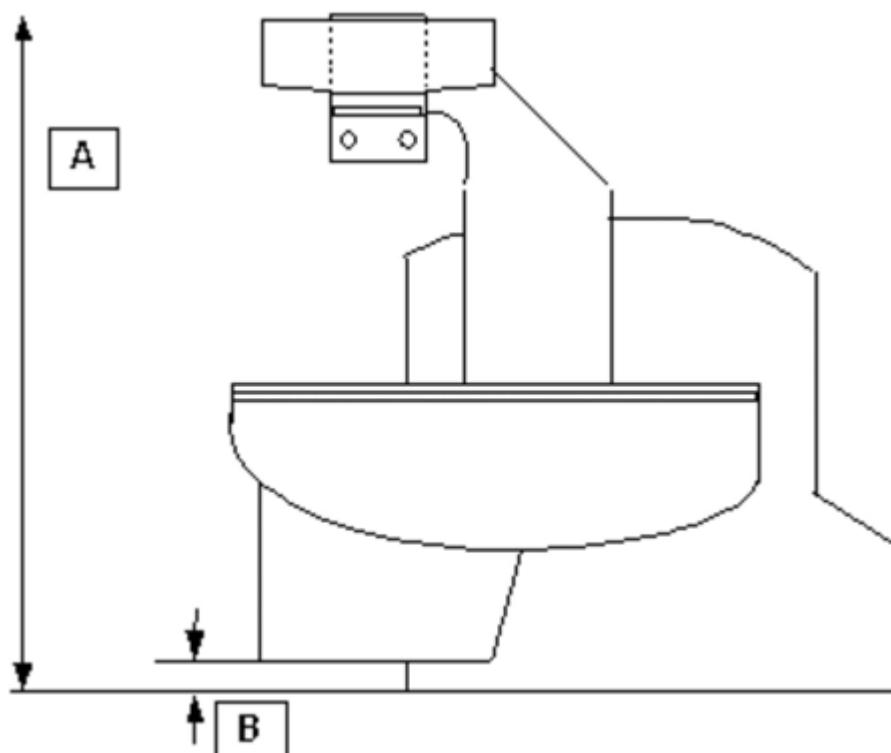

Fig. 37: Room dimensions - 1
- Measure the distance A from the floor to the ceiling (Fig. 37 / p. 64).
- Measure the distance from the lowest point of the I. I. with I. I. collision protection cover to the floor (Fig. 37 / p. 64).